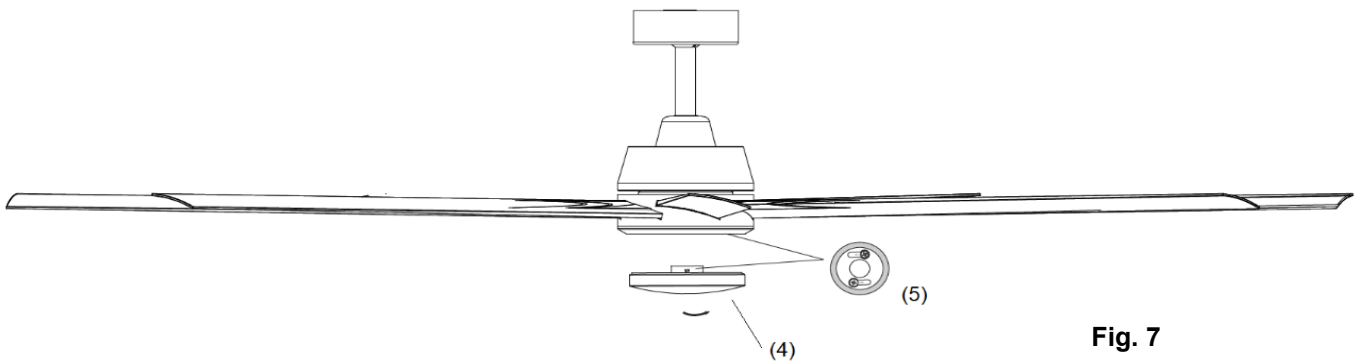

Fig. 7
- Install the lamp (4) in the GX53 lamp holder (5). Do not exceed the maximum power rating. (Fig.7)